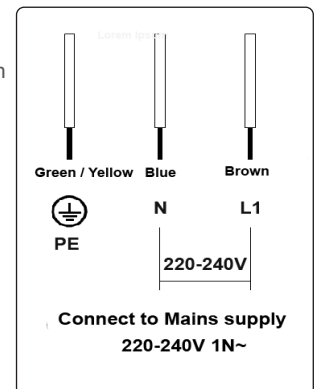

fig.1
- The "blue" neutral wire must be connected to the terminal marked with letter (N) - the live wire (L1) must be connected to the terminal marked with letter (L1) (220-240V 1N~). see Fig.1.
- This appliance must be wired into a 30A double pole switched fused spur outlet, having 3 mm contact separation and placed in an easily accessible position adjacent to the appliance. It should not be located above the appliance and no more than 1.25m away from it. See Fig.1.